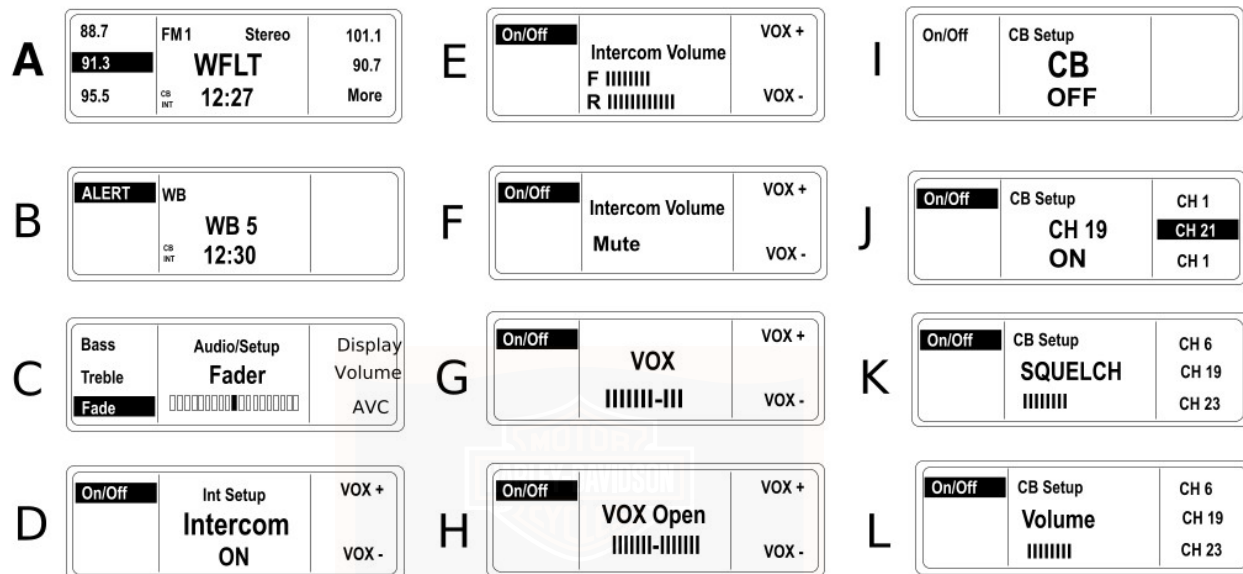

Figure 34. Display Examples
See F in Figure 34. When the rear headset volume is adjusted, a F (front) and R (rear) bar graph appear in the LCD display.
See D in Figure 34. To activate the intercom (INT) and the VOX microphones, press soft key **1** to turn the intercom ON.
See G in Figure 34. Press the **MODE SEL** switch **UP** or **DN** or press the **4** or **5** soft key to initiate the VOX display. The LCD displays VOX sensitivity as a bar graph with a smaller bar to indicate the center of the 14 bars. A higher number of bars indicates greater sensitivity while a lower number means less sensitivity.
See E in Figure 34. Enter Intercom Setup, speak into microphone and adjust the intercom volume with the AUDIO switch on the left hand grip. Press **AUDIO +** to raise the volume and **AUDIO -** to lower the volume. The LCD displays a dashed line that changes length with the level.
See F in Figure 34. When the headset volume has been adjusted to the bottom of its range, Mute will appear in the volume display.
See H and I in Figure 34. To activate the Citizen Band transceiver, press and release the **COM** pushbutton on the front panel. Press soft key **1** to turn the CB ON/OFF. The CB will activate in CB Setup with squelch threshold and channel settings from the previous use. CB channels are selected in CB Setup.
See J in Figure 34. With the CB on, press **COM** to enter CB Setup. The LCD displays CB SETUP in the upper half and the CB channel appears in the lower half.
See K in Figure 34. When squelch is broken, the CB in the display inverts. If the squelch is not broken and the another source is playing, CB is displayed.
See J in Figure 34. Up to 3 CB channels can be preset. Press and hold a soft key (4, 5, 6) to preset a CB channel.
See K in Figure 34. The CB signal is passed to the speakers or headsets only if signal strength exceeds the threshold set with the squelch control switch (**PTT/+SQ/-**). When CB signals exceed the threshold, they are said to "break squelch." Refer to Table 20.
Refer to Table 21. See L in Figure 34. To adjust volume of the CB in the speakers or headset, Press **AUDIO +** to raise the volume or -lower the volume. CB volume is adjustable when squelch is broken or when the display is in CB Setup.